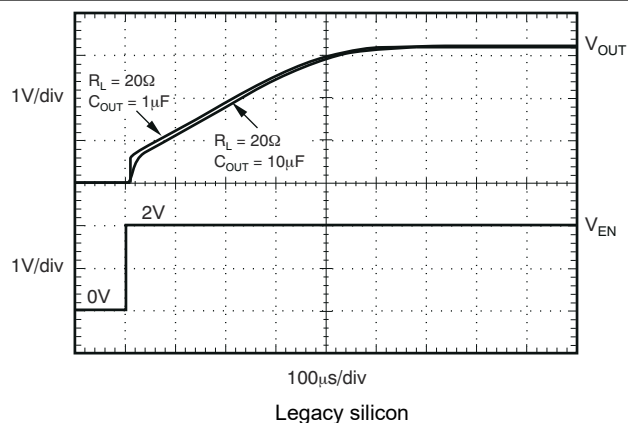

Figure 5-39. TPS73701-Q1 Turn-On Response
The enable pin (EN) is active high and is compatible with standard TTL-CMOS levels. A  $V_{EN}$  below 0.5V (maximum) turns the regulator off and drops the GND pin current to approximately 10nA. When EN is used to shutdown the regulator, all charge is removed from the pass transistor gate. A  $V_{EN}$  above 1.7V (minimum) turns the regulator on and the output ramps back up to a regulated  $V_{OUT}$  (see Figure 5-39).